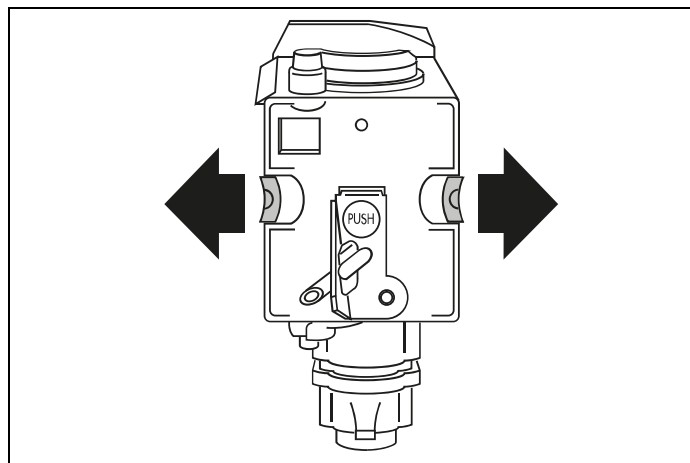

Fig. 51
- 1) Once inserted, make sure the two coloured release buttons have snapped out (Fig. 51).